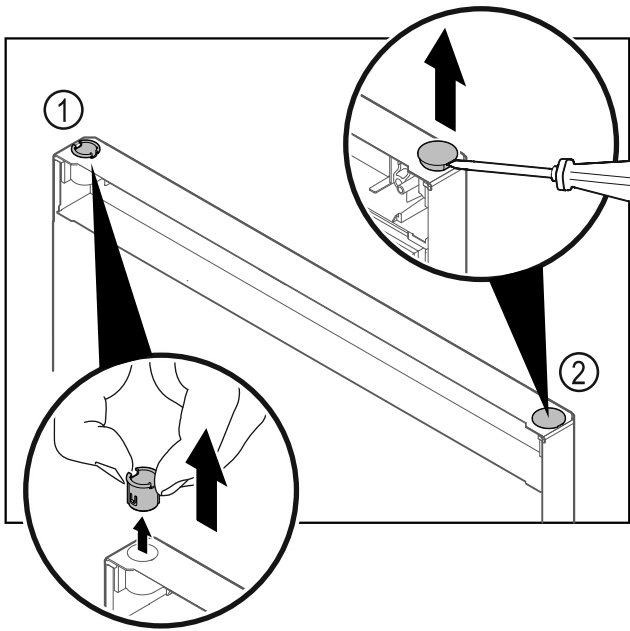

Fig. 24
- Pull out the hinge bushing Fig. 24 (1) with your fingers.
- Carefully lift the cover plug Fig. 24 (2) with a slotted screwdriver and pull it out.